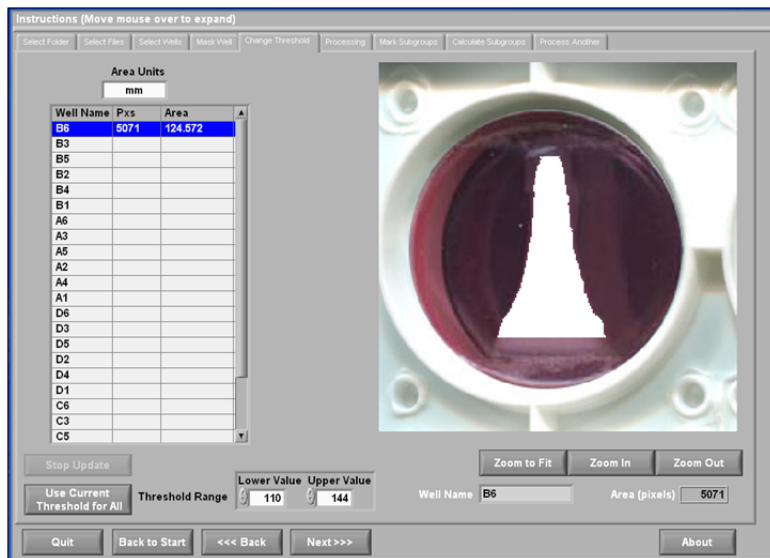

Figure 25. Evaluating the anchor image threshold
- 3) Next, the user should adjust the *LOWER* and *UPPER VALUES* of the threshold so the desired area to be measured is completely pixilated with white pixels in the image shown on the right side of the *CHANGE THRESHOLD* screen (**Figure 25**). Choosing a *LOWER VALUE* of zero will fill the ROI with 100% white pixilation, meaning 100% of the area inside the ROI is selected in the area measurement evaluation. Choosing an *UPPER VALUE* of 140 will fill the ROI with 0% white pixilation, meaning 0% of the area inside the ROI is selected in the area measurement evaluation. The *LOWER* and *UPPER VALUES* should be adjusted accordingly to obtain the desired result. The user may utilize the *ZOOM IN*, *ZOOM OUT*, and *ZOOM TO FIT* buttons below the window to gain an improved view of the pixilation inside the ROI.